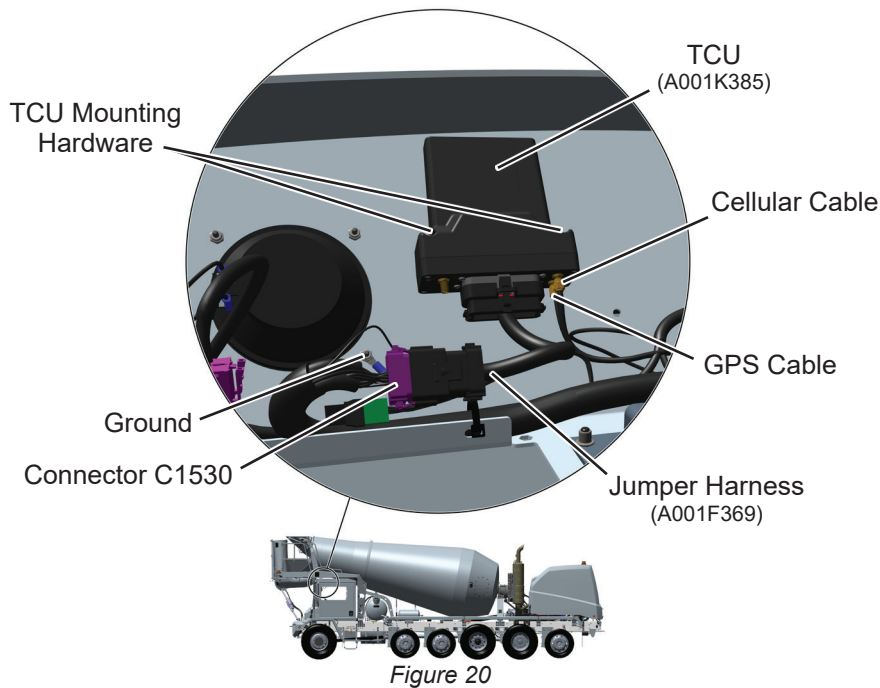

Figure 20
38. Loosen and remove right rear speaker mounting screw and nut. See Figure 20. Save screw and nut for reinstallation.
39. Remove paint from area around where speaker mounting screw and nut was removed in the overhead console. See Figure 20.
40. Place TCU (A001K385) in overhead console through radio panel opening. See Figure 20.
41. Secure TCU module to overhead console through holes drilled in Step 37 with screws (A000W843), washers (A000V858), and acorn nuts (A001C246). See Figure 20. Install screws from top and washers and acorn nuts from the bottom, acorn nuts to be visible from driver's seat. Final tighten hardware to 17 in lbs.
42. Connect jumper harness (A001F369) to connector C1530 and TCU. See Figure 20.
43. Connect cellular and GPS cables disconnected from Micronet display to TCU. See Figure 20.